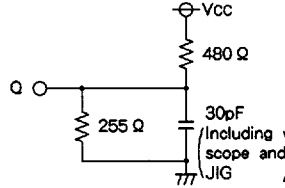
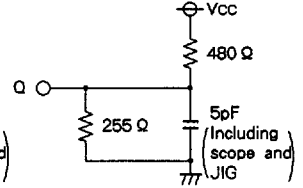

Fig. 1 Output load
Fig. 2 Output load for ten, tdis
Output loads ..... Fig. 1, Fig. 2
3. Transition is measured  $\pm 500mV$  from steady state voltage with specified loading in Fig. 2.